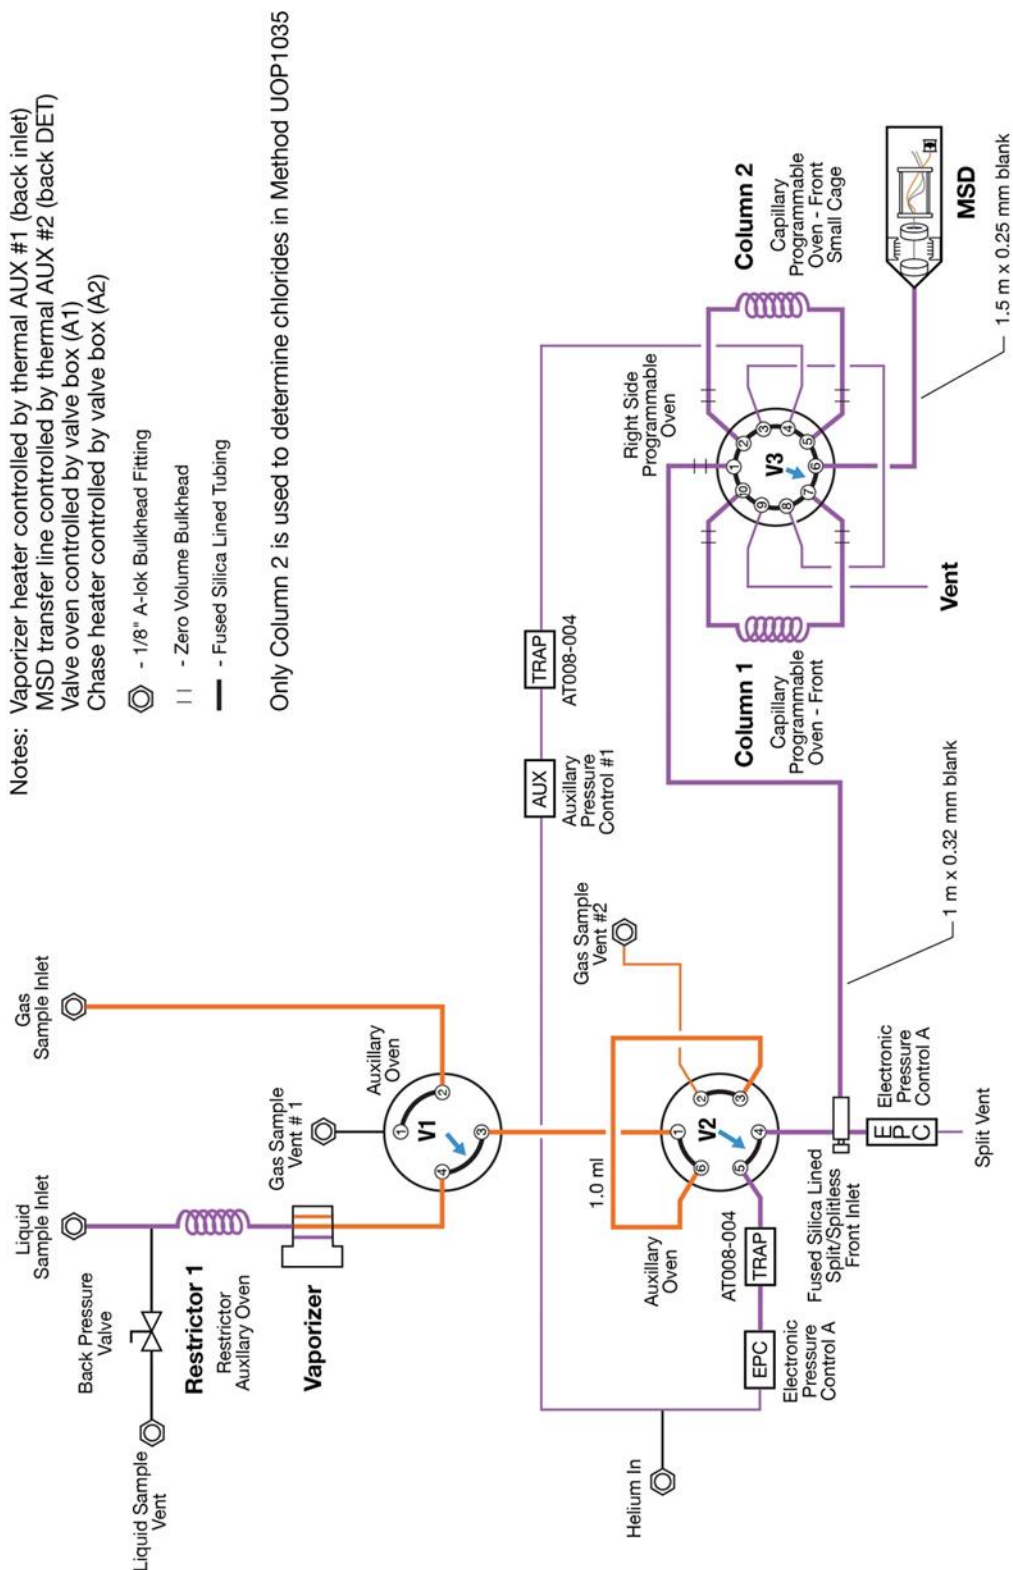

Figure 1
1. Choose and load appropriate method for gas sample analysis, ensuring valve 1 is in the on position to bypass the on-board vaporizer, see Figure 1.
4. Choose and load appropriate method for LPG sample analysis, ensuring valve 1 is in the off position and the vaporizer is in line with the inlet of the system. Refer to Figure 1.